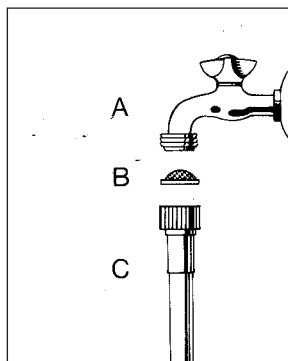

Fig. 6
The water inlet hose C (fig. 6) supplied with the appliance should be attached to a  $\frac{3}{4}$ " threaded BSP connection.
- first screw the hose to the cold water pipe; when doing so insert filter B (fig. 6) provided;
Clean filter B periodically located behind the water tap in the water inlet hose (fig. 6). To do so turn off the tap and unscrew the hose. Remove the filter and clean it carefully under running water.